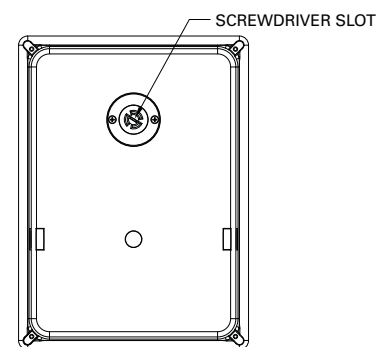

FIG. 4
1. Loosen the two [2] screws to allow rotation of the receptacle **FIG. 4.**